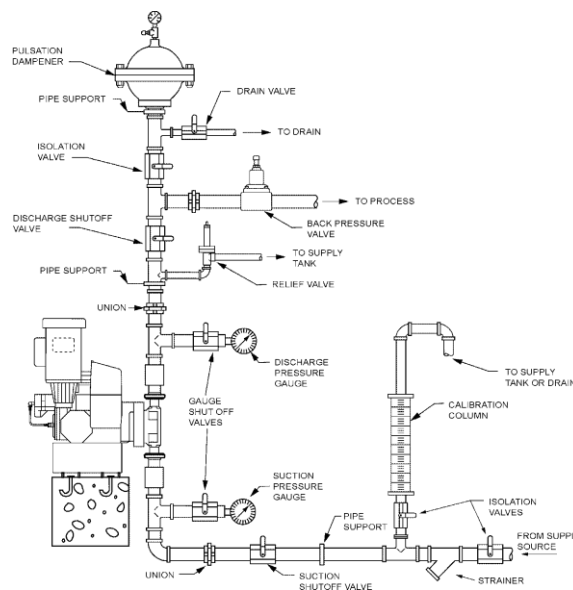

Figure 1 – Typical Installation
2. Calibration is an important element of successful DLCM operation. Permanent installation of a calibration column as depicted in **Figure 1** is strongly recommended.